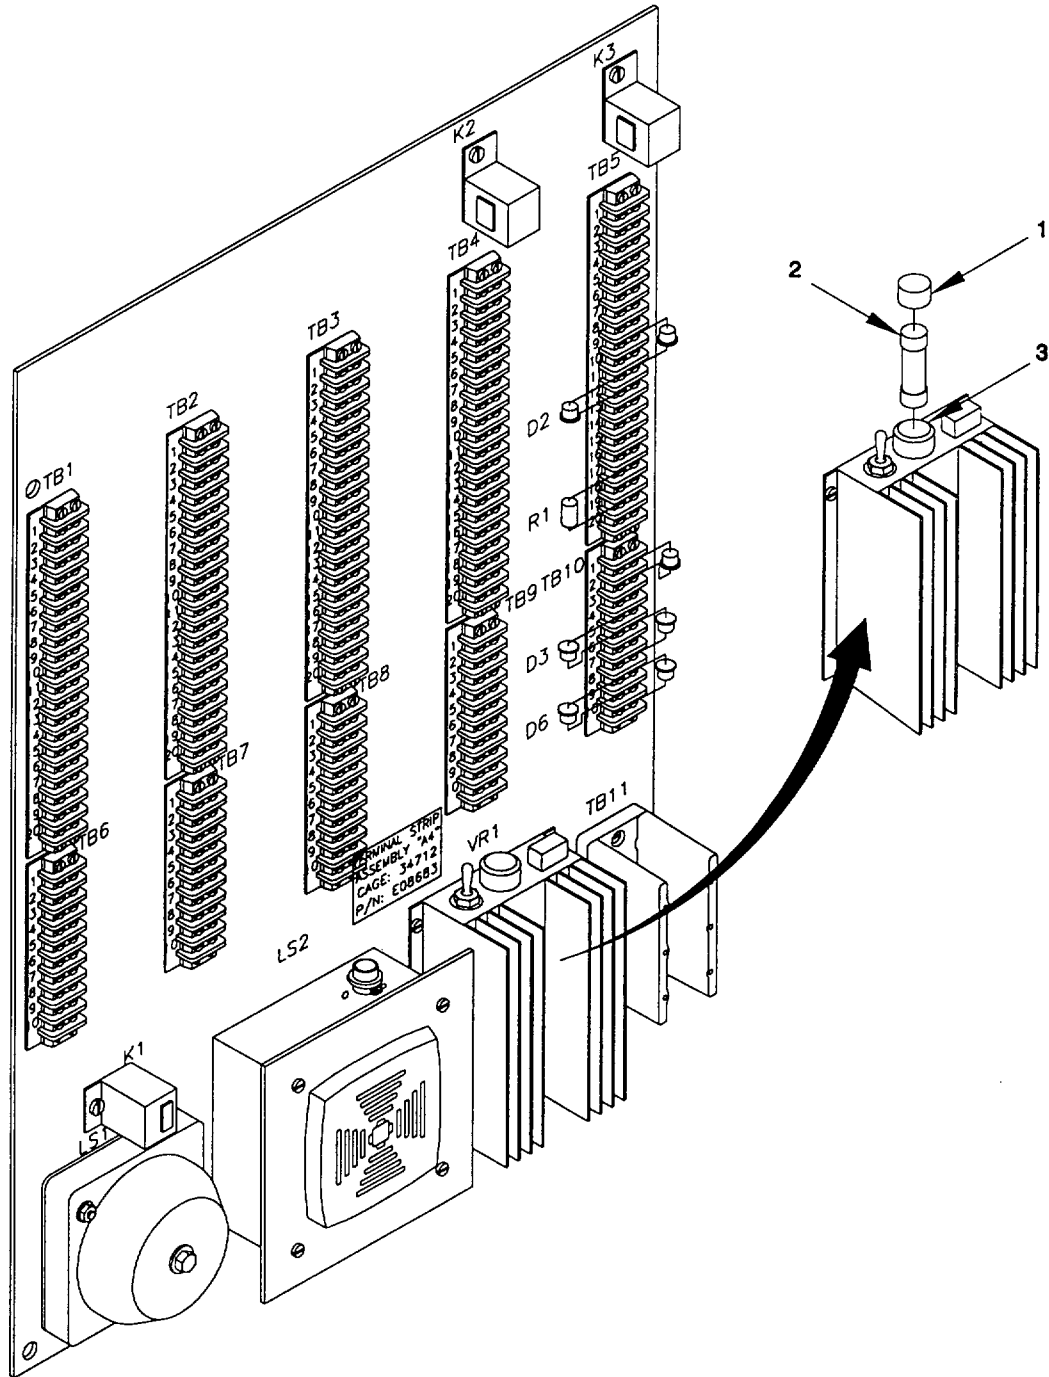

Figure 2-139. Fuse, Converter, Terminal Strip "A4", Remove/Install.
- a. *Remove.* (figure 2-139)
- (1) Troubleshoot cause of blown fuse before removing and replacing fuse.
- (2) Unscrew fuse cap (1) and remove fuse (2) from converter (3).
- b. *Install.* (figure 2-139)
- (1) Insert new fuse (2) in converter.
- (2) Screw fuse cap (1) into converter (3).